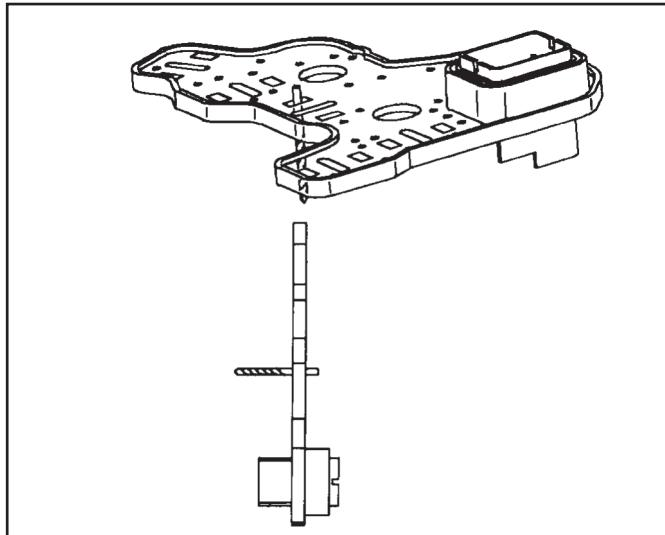

Figure 180
12. Check connector plate terminals with the shank of a #43 (2.25mm or 0.089 in.) drill bit. Be sure that there are no burs on the drill bit shank. There should be a slight drag on the shank. If not, replace the connector plate (See Figure 180).